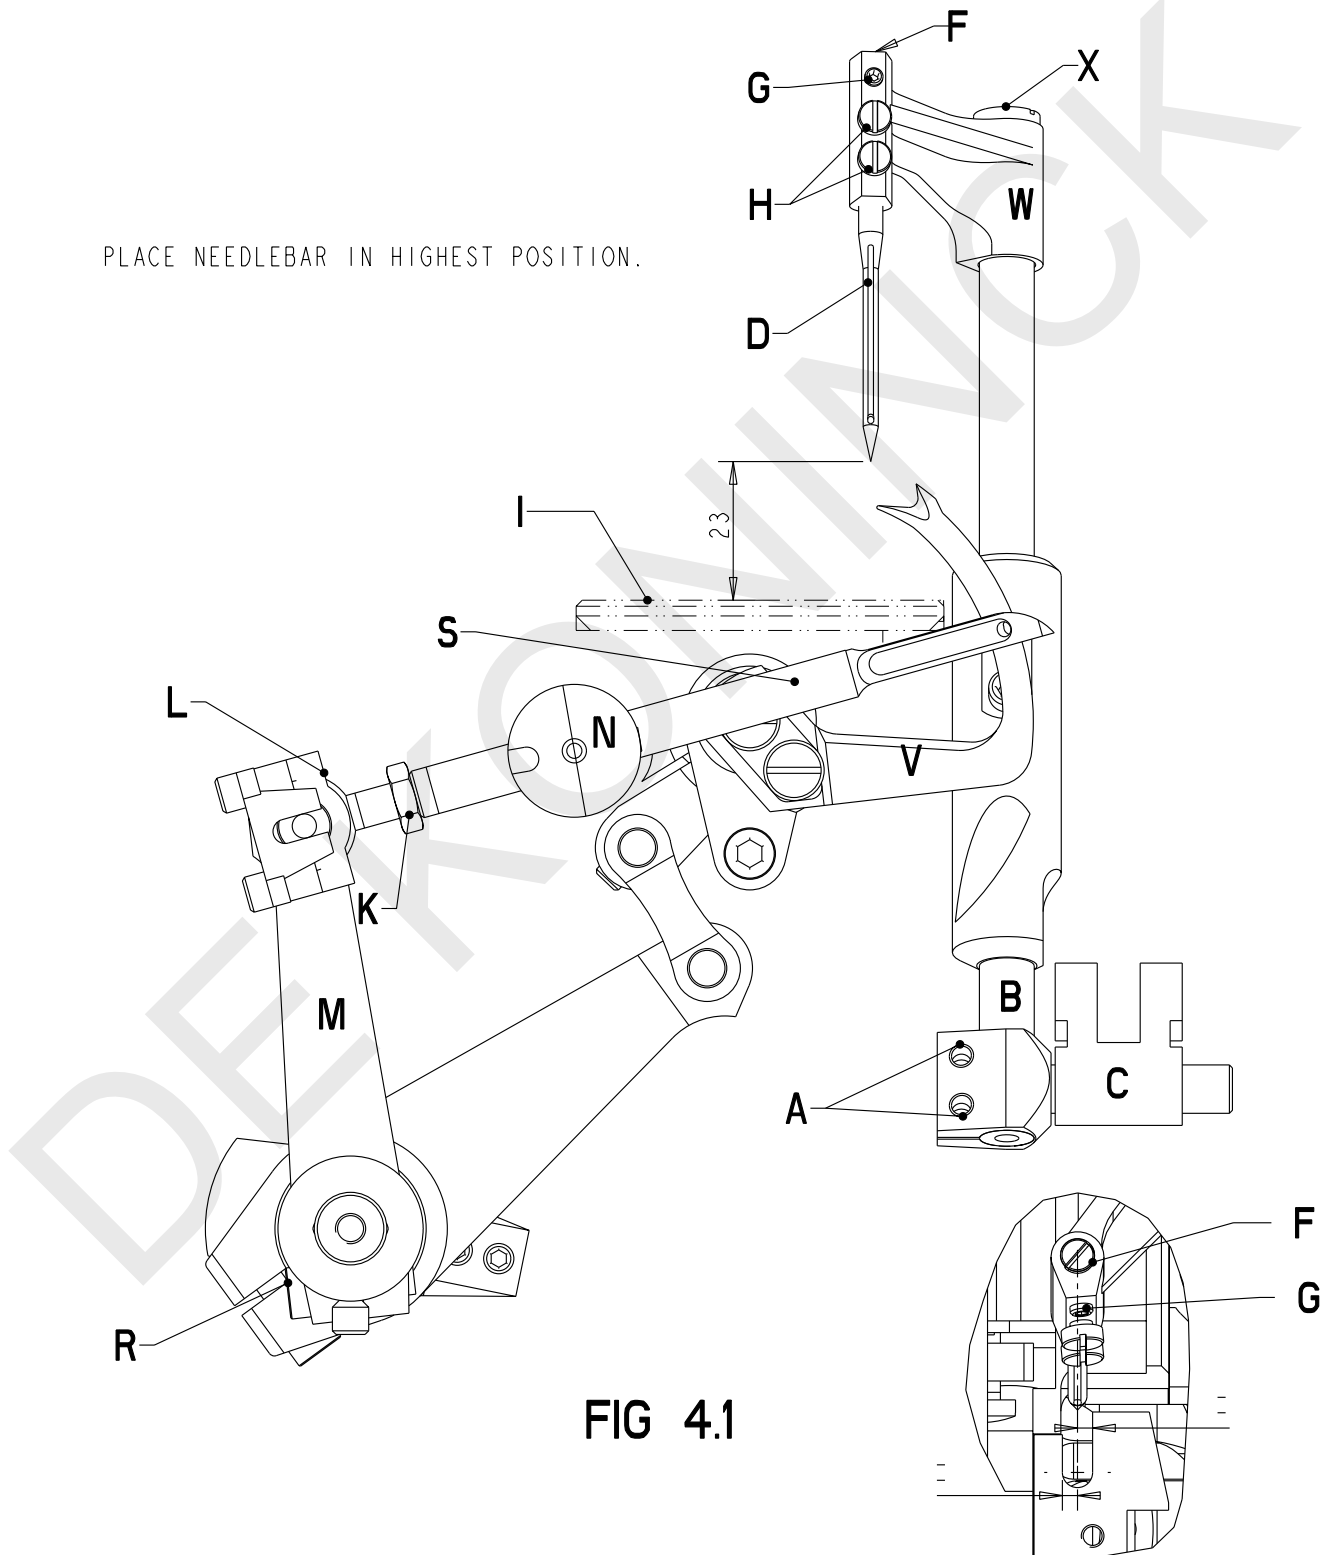

FIG 4.1
- Loosen the screw **H** (see figure 4.1) and remove the needle.
With the needle having reached the top of its stroke, distance between the needle point and the needle plate must be exactly 23 mm (see figure 4.1).
- Loosen the screws **H** first while holding the needles by hand (see figure 4.1).